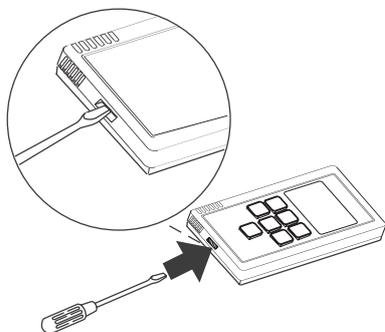

Fig. 3-44
1. Insert a flathead screwdriver or the like in the groove on the lower side of the simplified remote controller body to pry off the back case. (See Fig. 3-44)